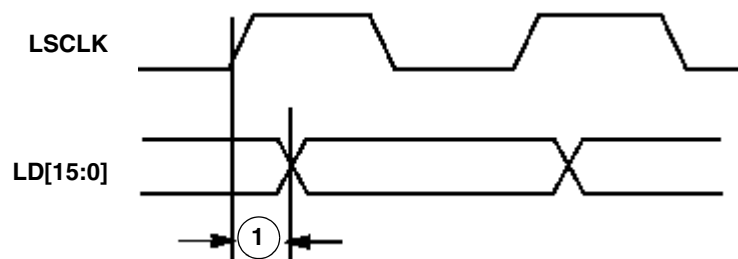

Figure 3. LSCLK to LD Timing Diagram
The LCDC supports both non-TFT passive matrix panels as well as TFT active matrix panels. Timing for both panel types are discussed in this section. Figure 3 and Table 1 depict the LSCLK-to-display data (LD) relationship.